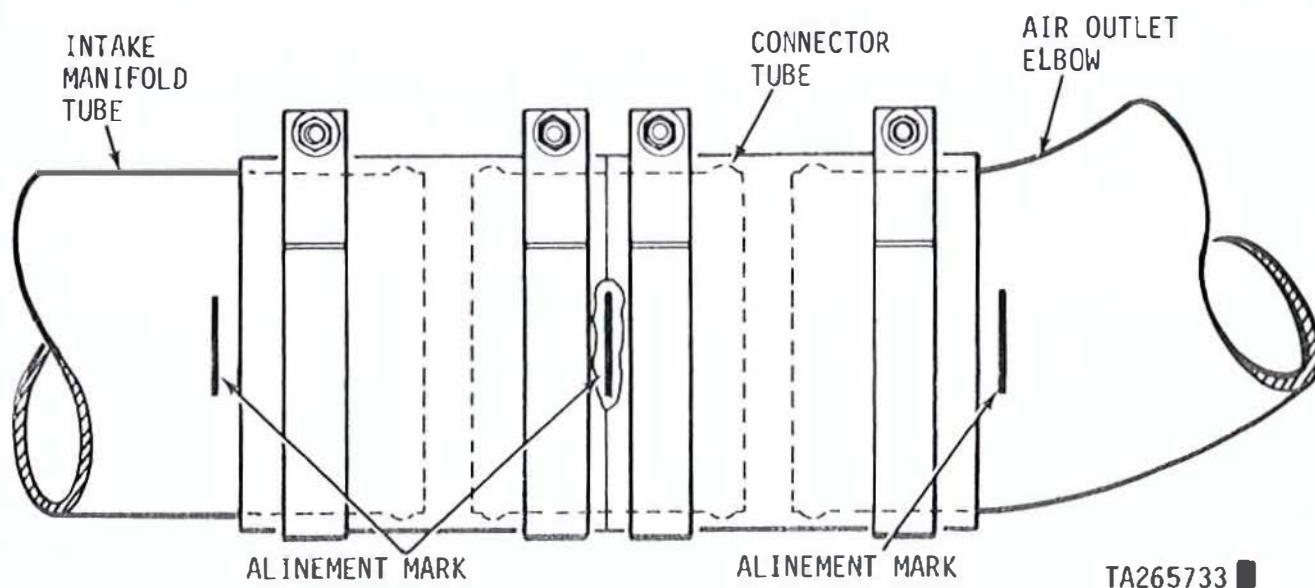

Figure 2-82.1. Alinement of intake manifold tubes and hoses.
(4) Install four hose clamps (1) loosely on two hoses (2). Install both hose assemblies on connector tube (5). Butt the hoses together at the alignment mark on the connector tube (fig. 2-82.1).